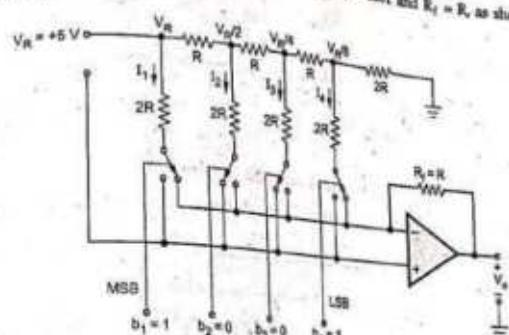

Fig. 6.2.6 Inverted 4-bit R/2R ladder DAC
- Let us consider 4-bit binary DAC with binary input 1001 and  $R_f = R$ , as shown in the Fig. 6.2.6.